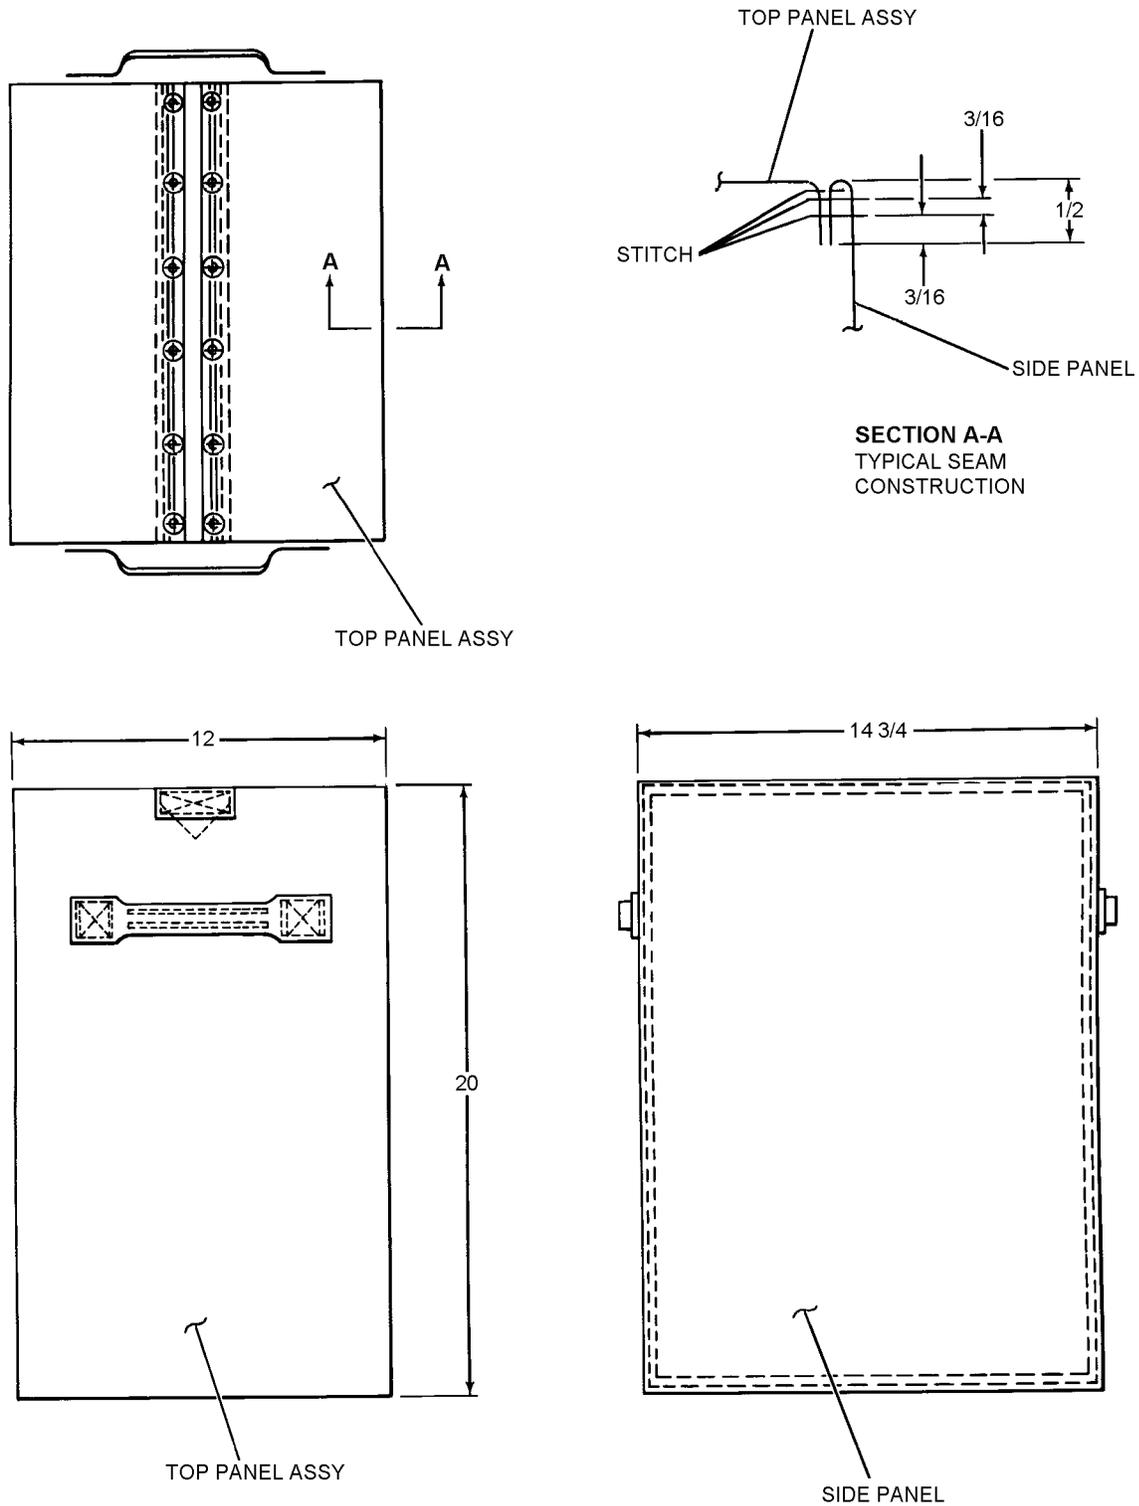

Figure 10-7. Survival Equipment Container, SAR Kit
n. Place the top panel assembly with the handle side up. Center the side panel on the top panel assembly with the 15 3/4-inch edges of the side panel, mating with the 55 3/4-inch edges of the top panel assembly. Stitch in place 1/2 inch in from the mating edges. Turn the free ends of the top panel assembly upward in order to mate the three raw edges of the top panel assembly with the corresponding raw edges of the 53-inch side of the side panel, and stitch 1/2 inch in along the mating edges as shown in Figure 10-7.
o. Turn the assembled survival equipment compartment assembly right-side-out. Stitch 1/8 and 3/16 inch in on all sides of the side panel catching the seam allowance, as shown in Figure 10-7, Section A-A.